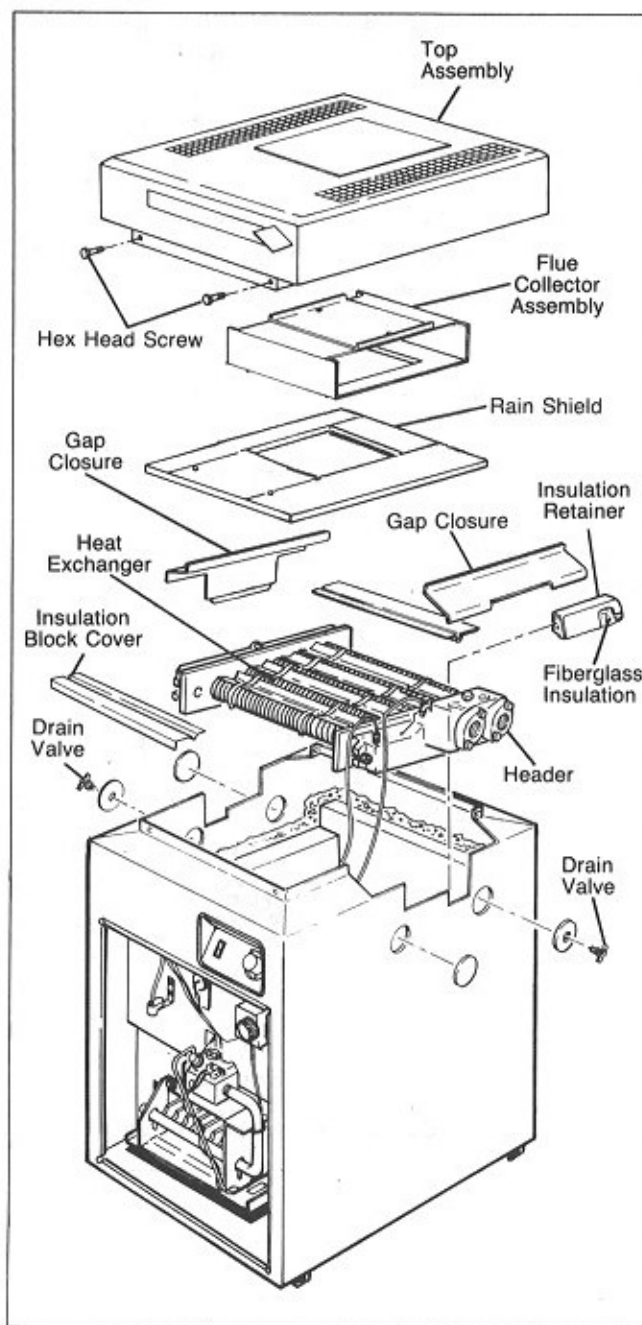

Figure 34. Heat Exchanger Reversal
An inspection and cleaning of the complete heat exchanger can only be accomplished by removing it from the heater (see Fig. 34 and the instructions in Section 5).
2. Remove the hex-head screws shown in Fig. 34 and lift the top assembly straight up.
9. Remove the three grommets shown in Figure 34.
10. Remove the 2 drain valves (see Fig. 34). One is located under the water connections on the right side. The other is on the left side toward the front of the heater.